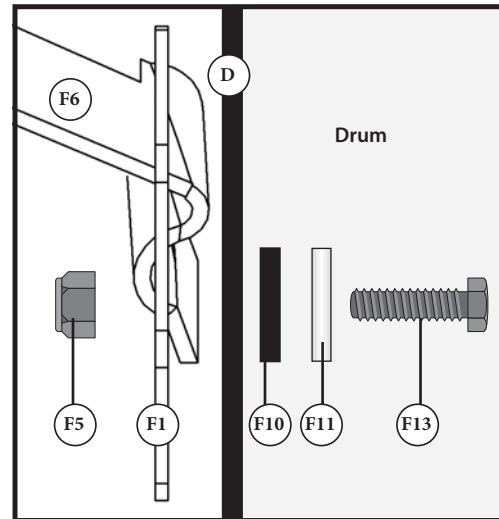

FIG. 3
Secure both Handle Assemblies to pre-drilled holes on sides of Drum (D) using Hex Head Bolt (F2), Flat Washer, (F3), Rubber Washer (F4), and Nylock Nut (F5) as shown in FIG 3.